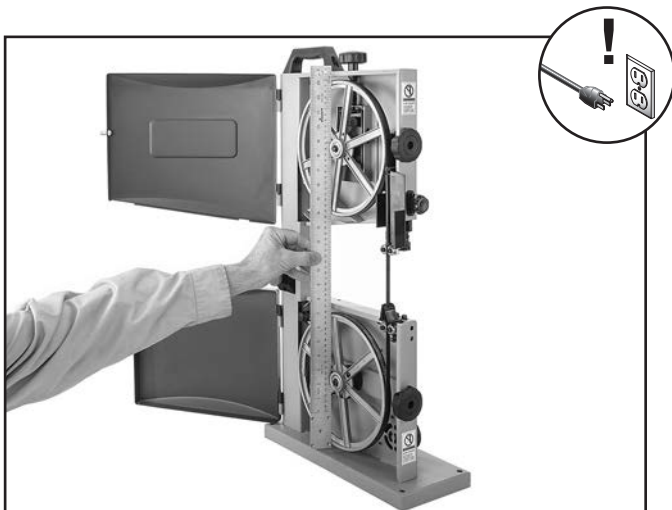

Figure 54. Example of checking if wheels are coplanar.
3. With blade on and properly tensioned, hold a straightedge close to center of both wheels. Make sure straightedge fully extends across the rims of both wheels, as shown in **Figure 54**.